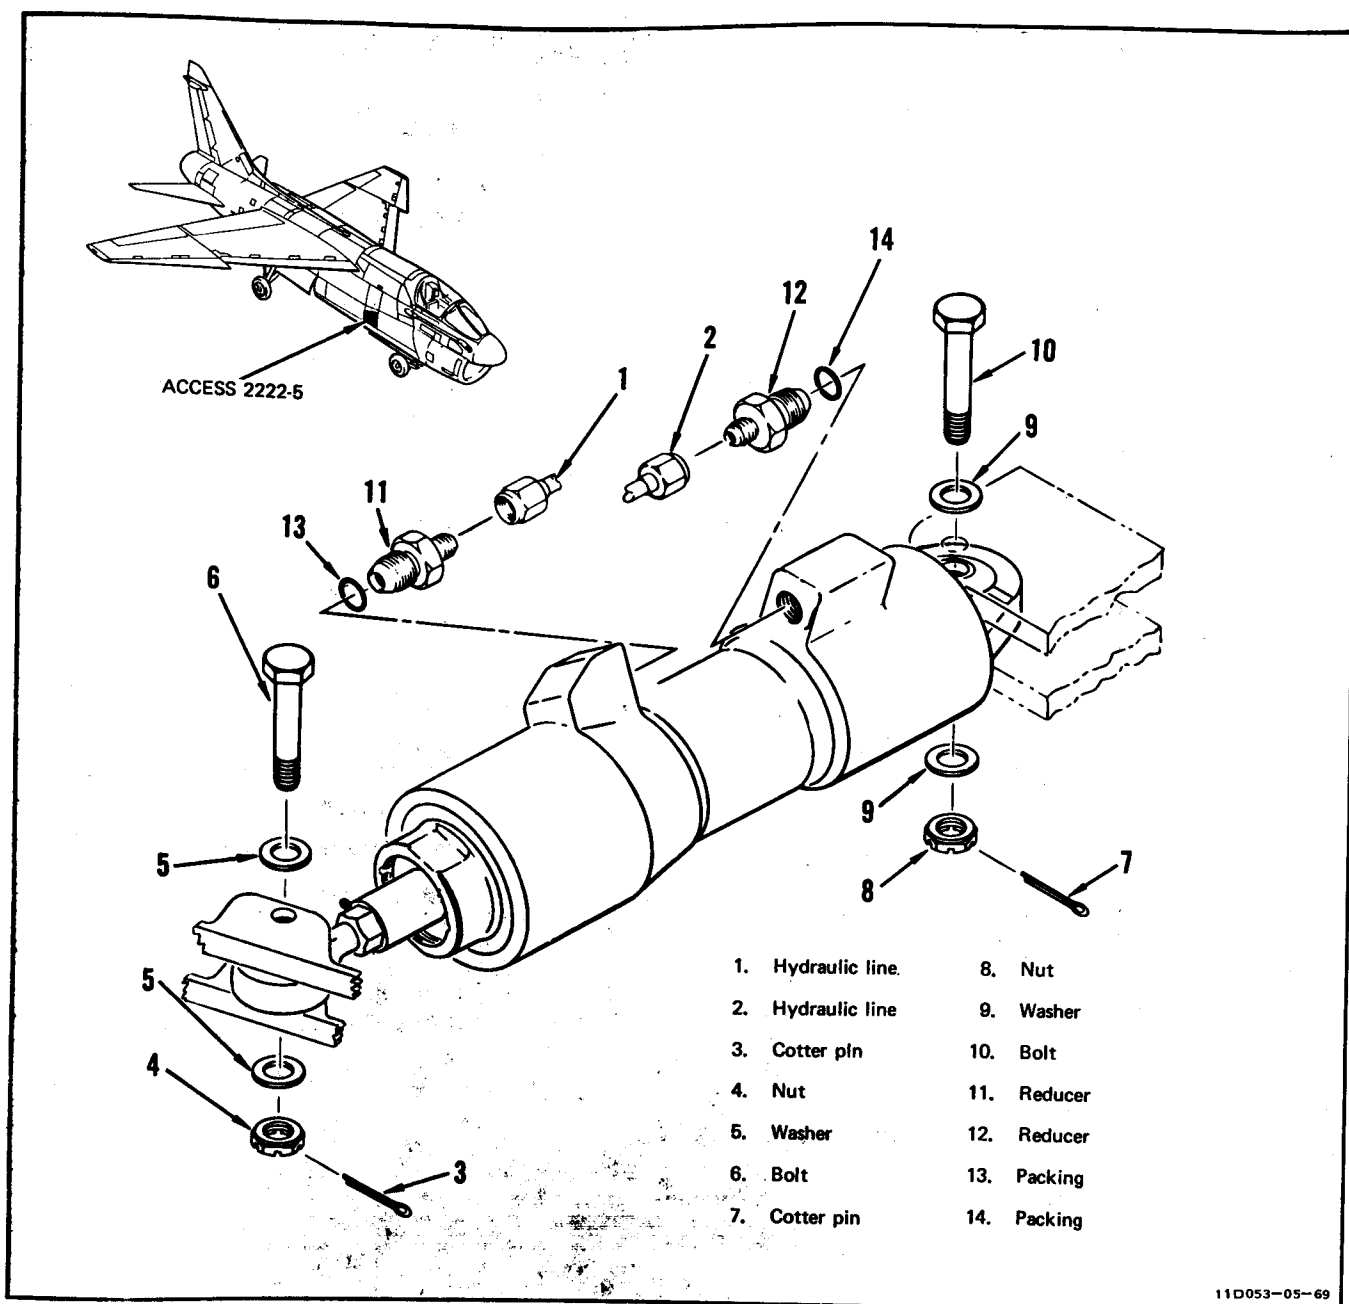

Figure 7-17. Emergency Power Package Actuating Cylinder Removal and Installation
#### 7-44. REMOVAL. (See figure 7-17.)
**7-45. INSTALLATION. (See figure 7-17.)****WARNING**